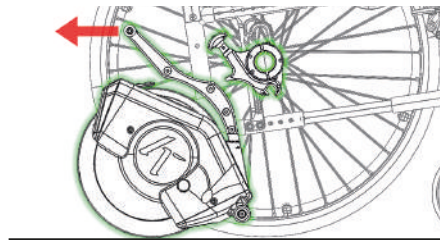

Figure 31
- The TWIST R is now unlinked and can be removed by grabbing it by the handle of the frame and pulling it back (Figure 31).